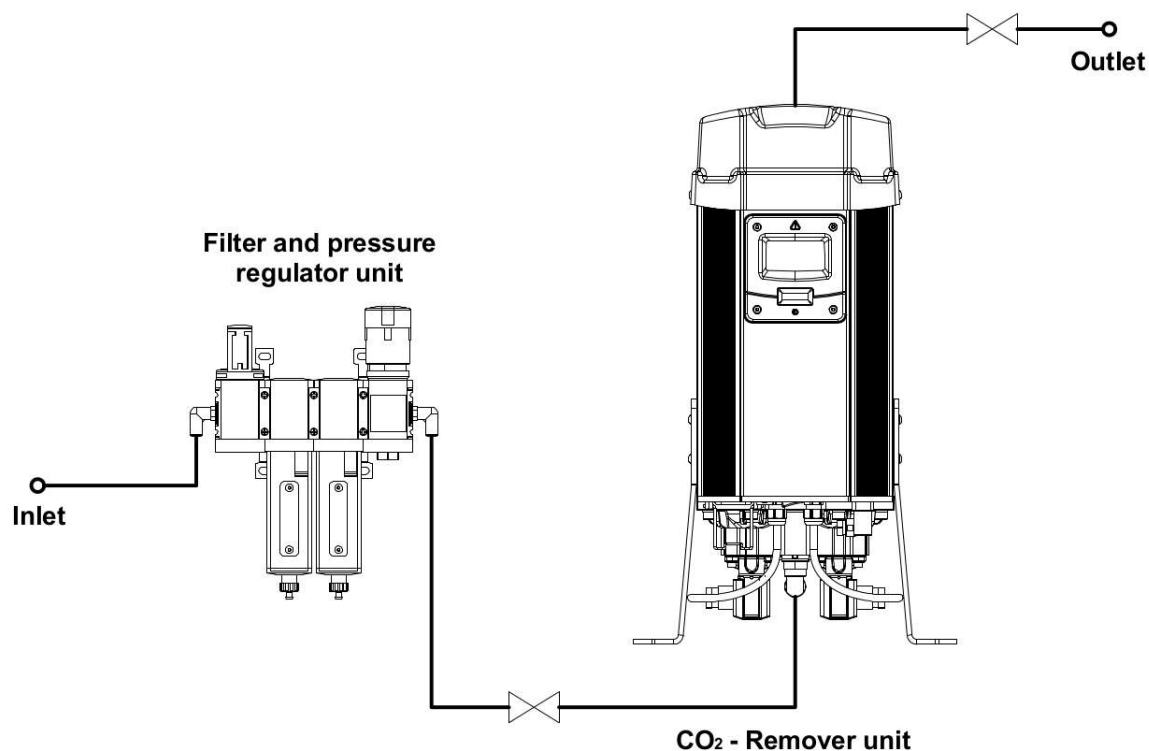

Fig. 149: Start-Up of the CO₂-Remover
1. Connect all pipelines as shown in Fig. 149, page 232 to the CO₂-Remover.